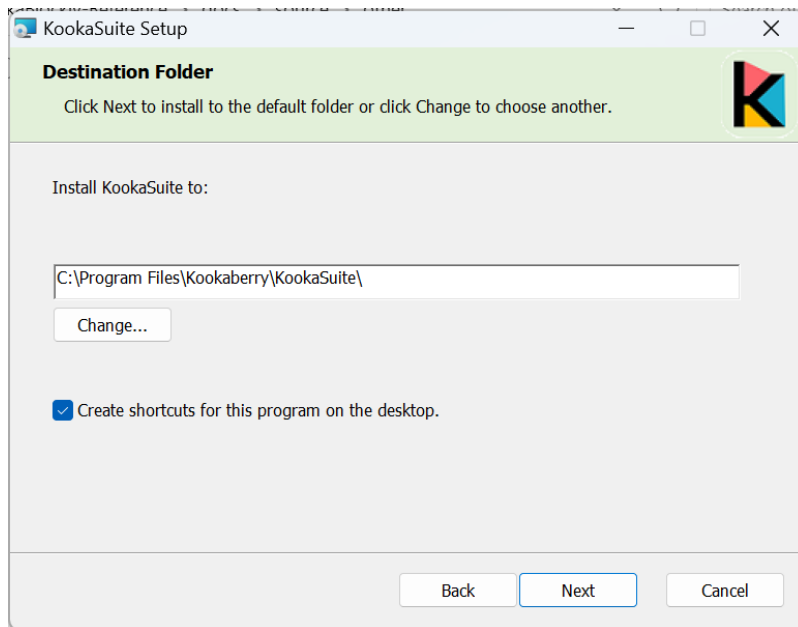

Fig. 1.6: Installation location dialogue. Click on **Next** to proceed.
4. The dialogue in Fig. 1.6 will then appear showing where on your computer the **KookaSuite** programs will be installed.